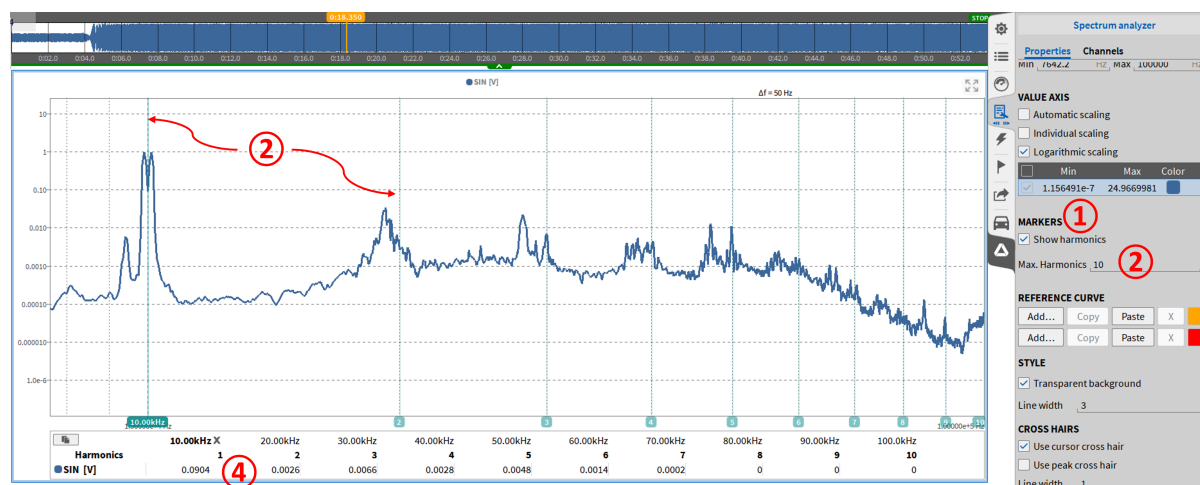

Fig. 8.50: Usage of Harmonics Cursors
Harmonics Cursors can be displayed by checking *Show Harmonics* (see ① in Fig. 8.50). The number of harmonics can be set from 1 to 10 (see ② in Fig. 8.50). Harmonics are marked with cursors (see ③ in Fig. 8.50) and the harmonics amplitude is displayed at the instrument's bottom (see ④ in Fig. 8.50).